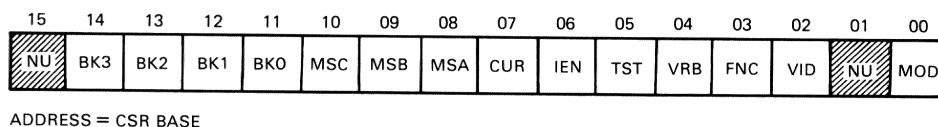

Figure C-21 VCB01 CSR Format
C.2.2.1 Control and Status Register – The CSR bits are shown and described in Figure C-21 and Table C-4. Note that following a Q22-Bus BINIT, bits <06:02> are cleared (= 0).